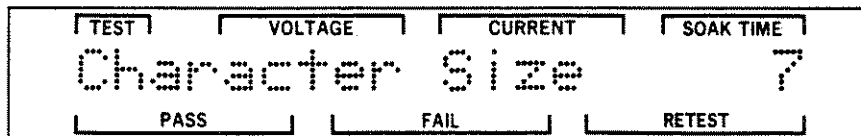

Figure 7-45. Character Size Screen
STEP 10. Press the DOWN pushbutton once to display the Character Size screen. Figure 7-45 is an example of this screen.